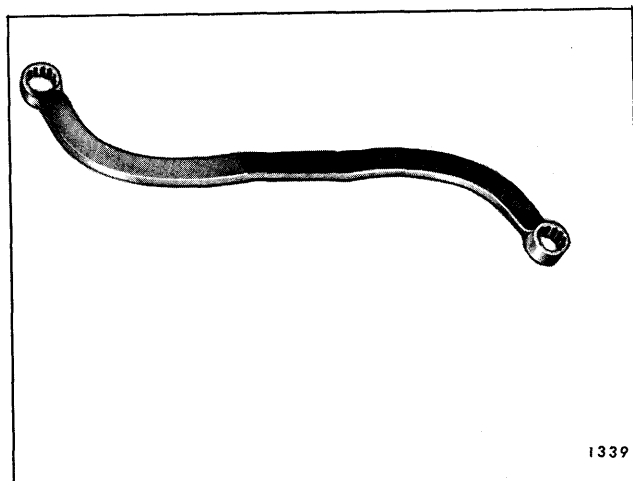

Fig. 6-55—Front Door Hinge Tool J-21550 (1/2" Box) - "F, X & Z" Styles
- a. On "F, X & Z" body styles, use tool J 21550 - 1/2" wrench (Fig. 6-55).